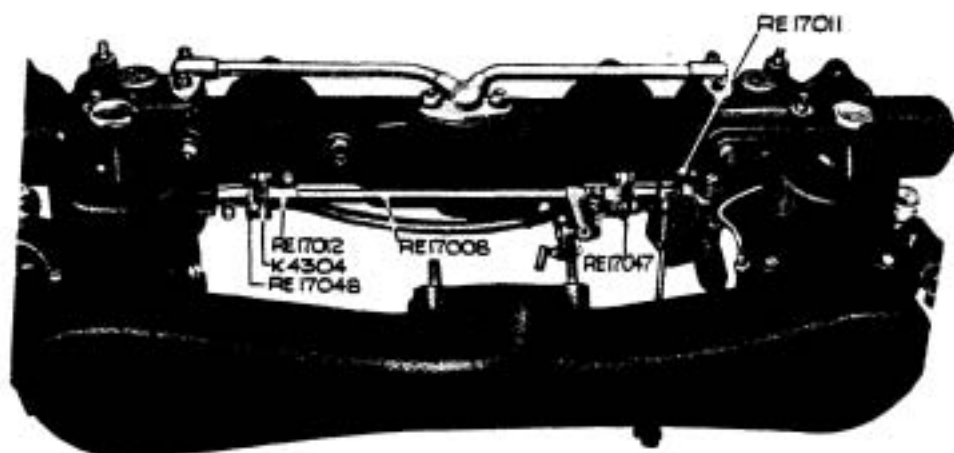

FIG. 5. CARBURETTERS ASSEMBLED.
- (ii) Remove two 3 BA bolts from each of the couplings, RE.17012/17047, and lift out the coupling shaft, RE.17008 (Fig. 5).